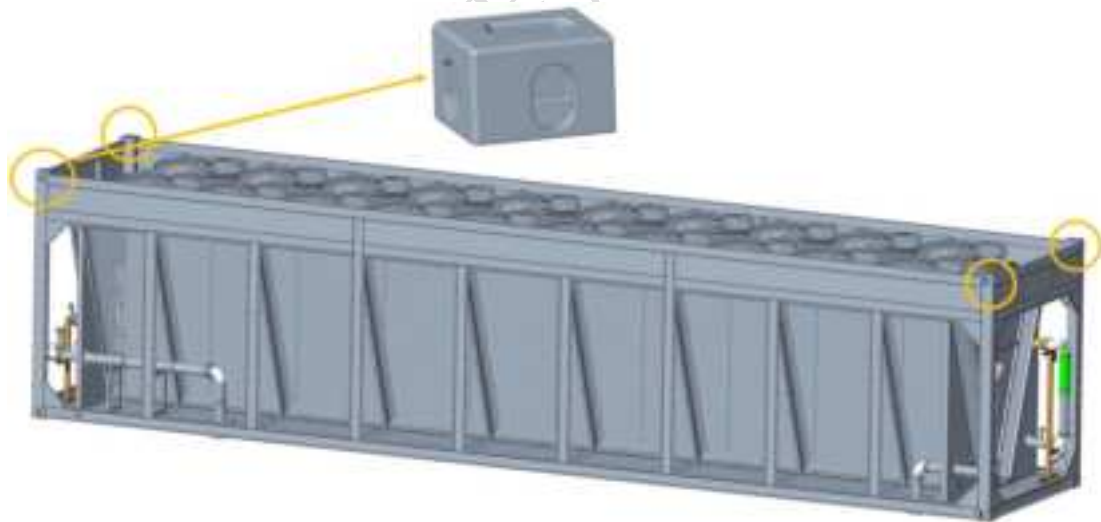

Figure 6.3 Lifting Schematic
- Pass the sling through each of the four corner pieces above the unit, the positions of which are shown in Figure 6.3.